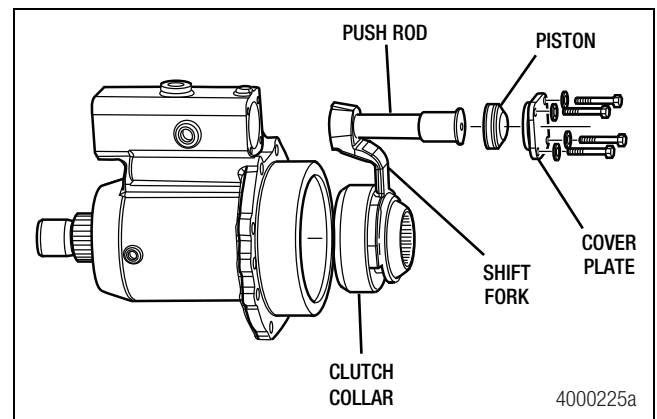

Figure 8.11
- i. Apply 20-30 lbs (9-14 kg) of pressure to insert the piston into the housing. Figure 8.11.